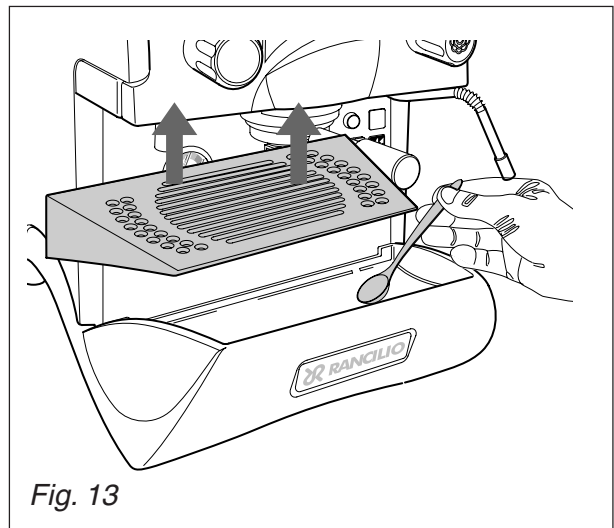

Fig. 13
- Check and clean the drainage sump (Fig.13), removing any sludge with the help of a spoon.